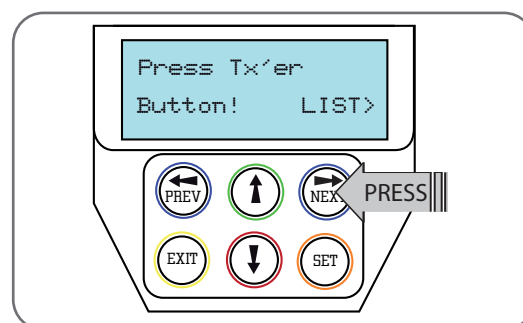

Fig G.1
- Press NEXT to view the transmitter parameters (**Fig. G.1**). This method is used for quick navigation if the transmitter is available.